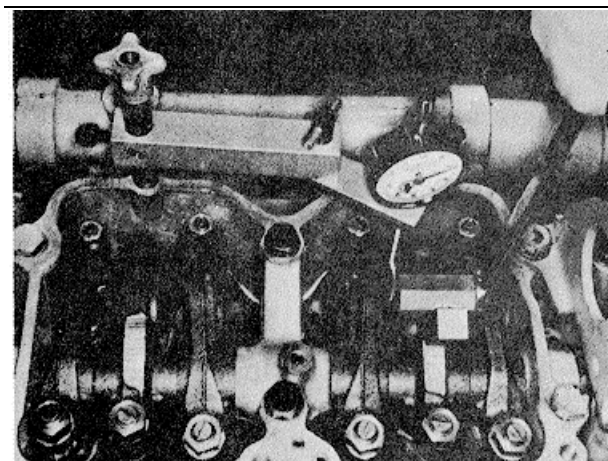

Fig. 14-28 (N114237), Bottoming Injector plunger in cup
5. Using ST-1193 Rocker Lever Actuator, Fig. 14-28, or equivalent, bar lever toward injector until plunger is bottomed. Allow injector plunger to rise, bottom again, set indicator at zero (0). Check extension contact with plunger top, turn adjusting screw until Adjustment Value, Table 14-11 is obtained.